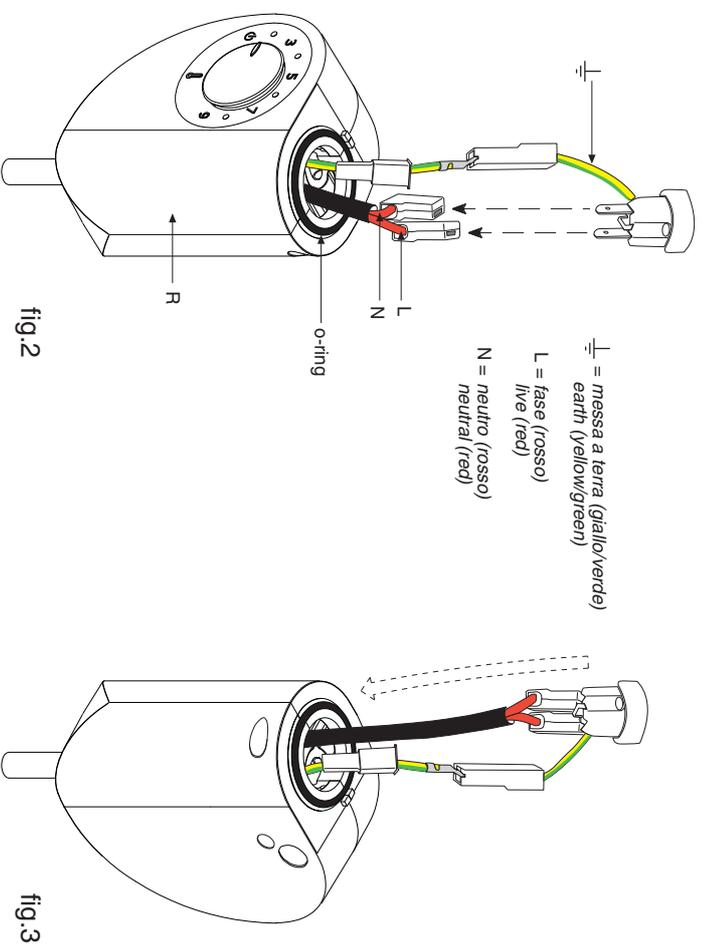
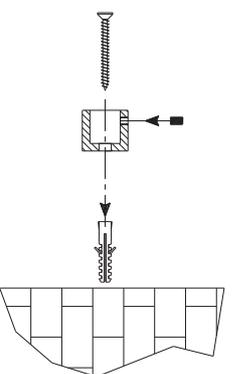
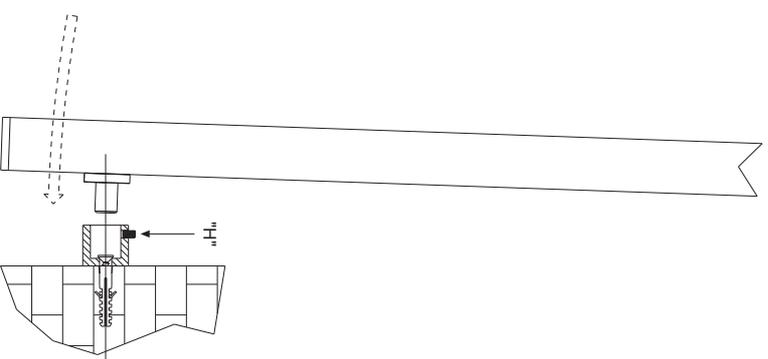

fig.2
fig. 7
fig. 8
3.1 Wire the earth (yellow/green), live and neutral (red) cables to the corresponding clamps of the electrical resistance assembled into the radiator maintaining the o-ring gasket in to the indicated position (Fig.2).
3.7 Fix the cylinder with conical housing to the wall (fig. 7), using suitable plugs for the wall type, able to support the radiator on the wall. The radiator is supplied with D.8 mm plugs for reinforced concrete. Follow the table and drawing in Fig.1 and Fig.2 for the heights. We also recommend marking the point where the radiator is to be secured to the wall, by placing the radiator against the wall. Tighten up the screw "H" (Fig.8).
- Do not turn on before attaching the heating element to the radiator and checking that the O-ring is intact and properly positioned (Fig.2).
- Non mettere in funzione prima di aver agganciato l'elemento riscaldante al termostato e di aver controllato che l'o-ring sia intatto e posizionato correttamente (Fig.2).